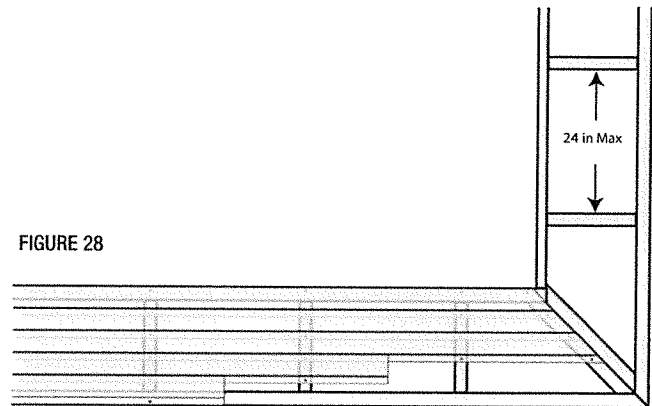
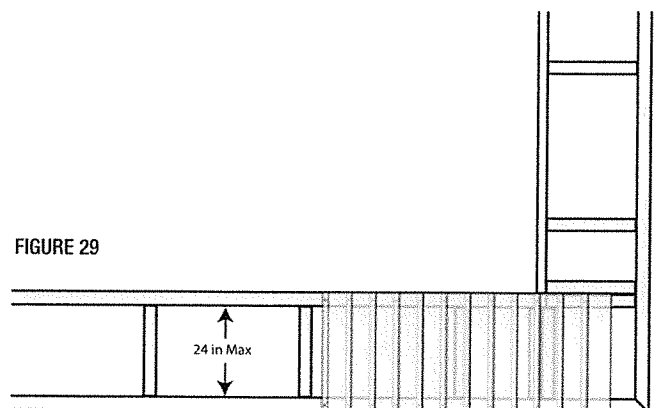

FIGURE 28
FIGURE 29
- Artisan siding can be installed in the long direction (fig. 28) or the short direction (fig. 29)
- Artisan siding butt joints are to land off stud (fig. 28). Install butt joints in moderate contact in soffit applications (caulking, H covers, and battens are also acceptable)